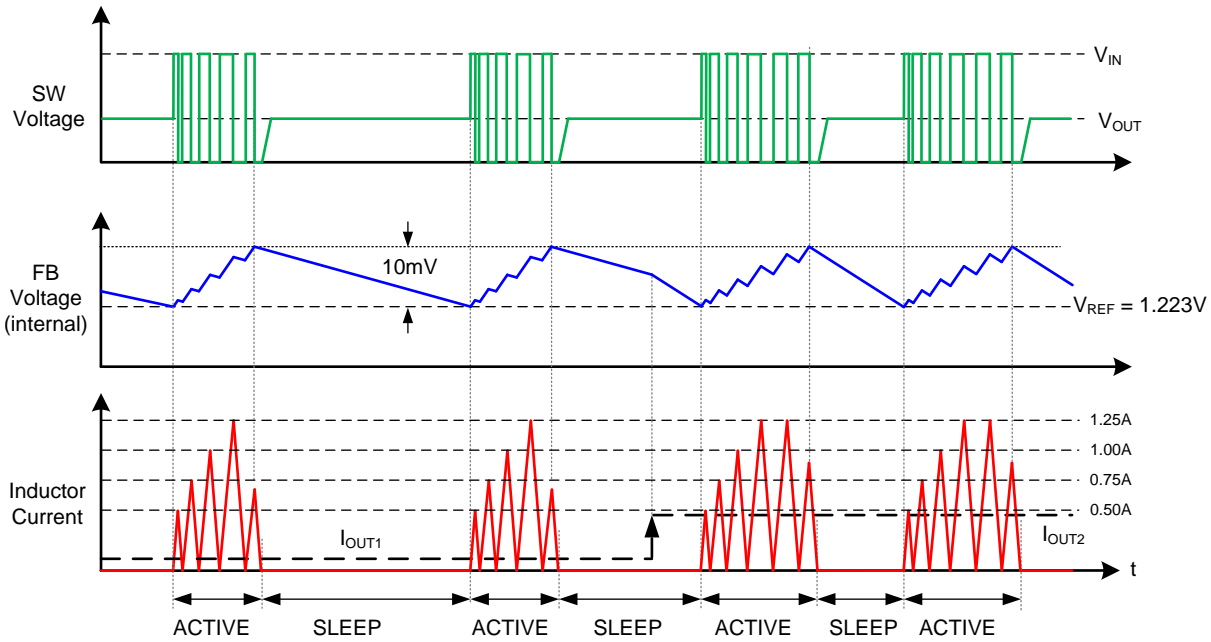

图 42. PFM Mode With Modulated I_{LIM} , Output Voltage and Inductor Current Representative Waveforms
One of the supported ILIM settings enables a function that modulates the peak current threshold levels during the first three switching cycles of each active period as illustrated in 图 42. This function improves efficiency under most application conditions at the expense of slightly degraded load transient response.
(1) For this current limit threshold selection, the ILIM pin may also be left open instead of using a 100-k Ω or greater resistor.
(2) This I_{LIM} setting enables a function that modulates the I_{LIM} levels during the first three switching cycles as illustrated in 图 42.